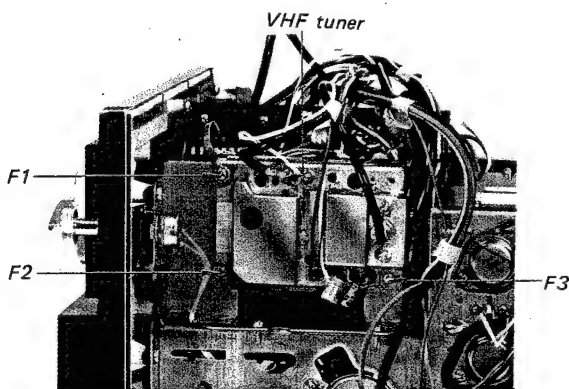

Fig. 2-8.
3. Remove the three screws labeled F1~3 in Fig. 2-8.